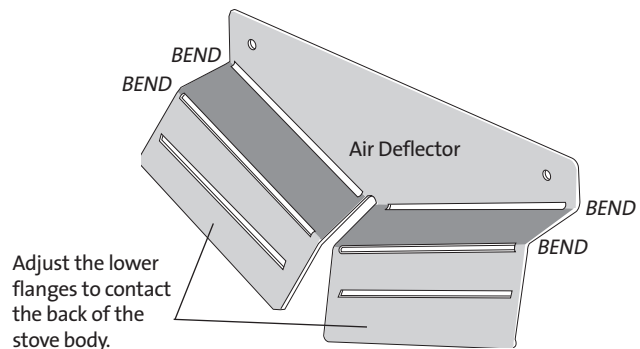

Figure 19. Air Deflector orientation.
2. **Attach the Air Deflector to Rear Shroud:** See figs. 19 and 21 /#3. Use pliers to bend the deflector tabs at the perforation lines as shown. Attach the deflector to the interior side of the rear shroud using two #8 X 12 sheet metal screws from the exterior side.